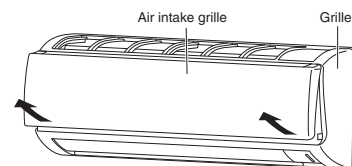

Fig. 3-40
- Grasp both ends of the air intake grille, and remove it by opening towards the front and pulling towards you. (Fig. 3-40)